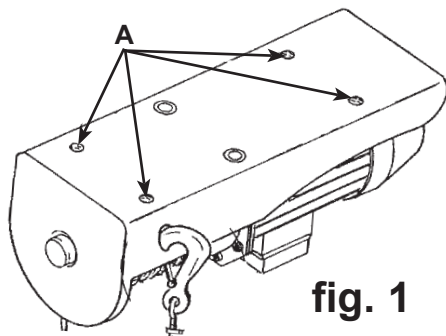

fig. 1
- 3.2. Ensure that the selected support is sufficiently strong and will also hold the hoist in a horizontal position. If alternative mounting brackets are fabricated ensure that these are at least as strong as those provided and align with the mounting holes (fig.1 A) in the hoist.